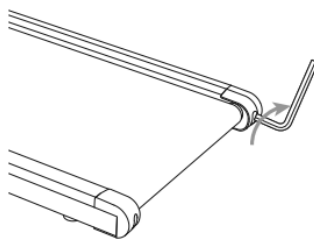

Figure 2
- If the belt has shifted to the right, use the hex tool to turn the right idler roller screw clockwise by 1/4 turn (see Figure 2).